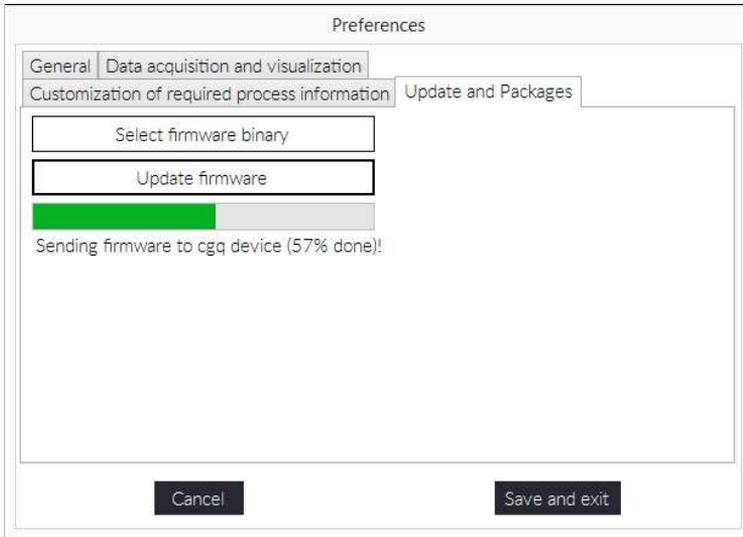
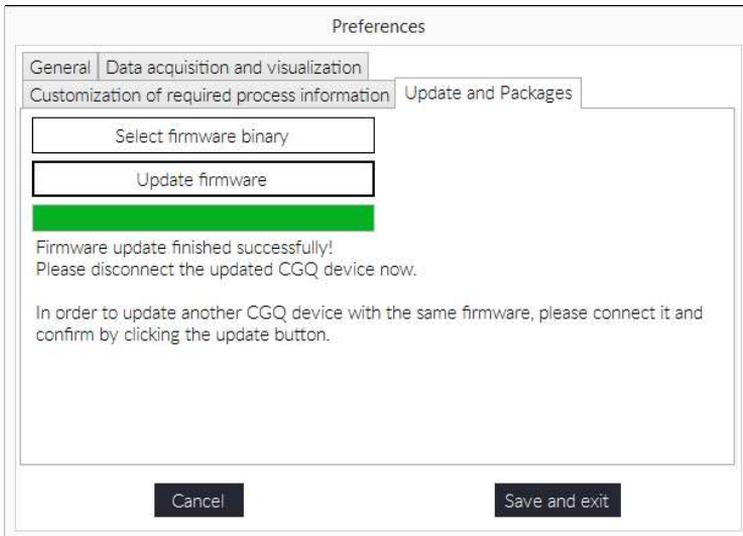

Figure 57: CGQuant "Preferences" window during firmware update.
Figure 58: CGQuant "Preferences" window after successful firmware update.
10. Start the firmware update procedure and wait for it to be finished. The firmware update process is a series of different steps, which are reported in the “Preferences” window, as exemplarily shown in Figure 57 and Figure 58. If the update process fails or stalls, please disconnect the base station power supply, reconnect it and try to upload the firmware again.